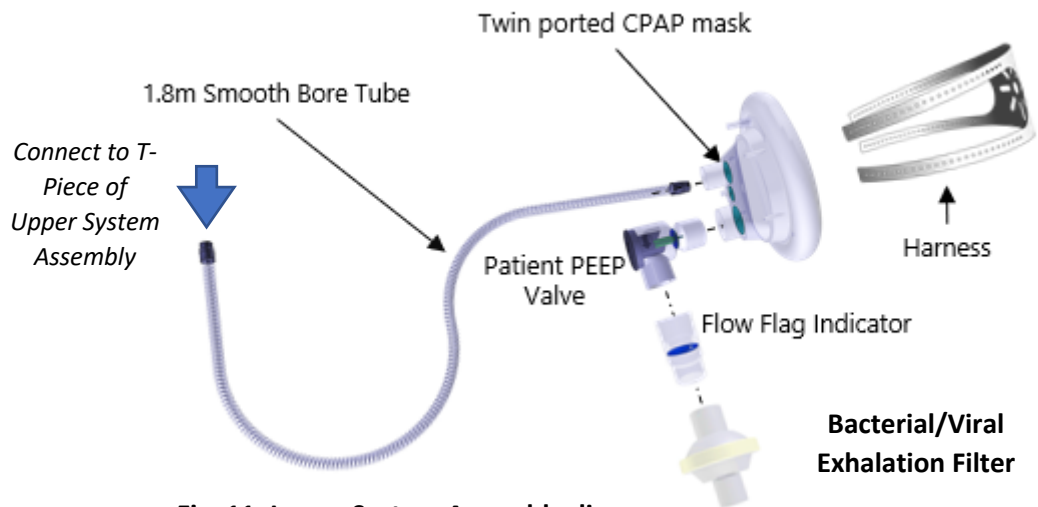
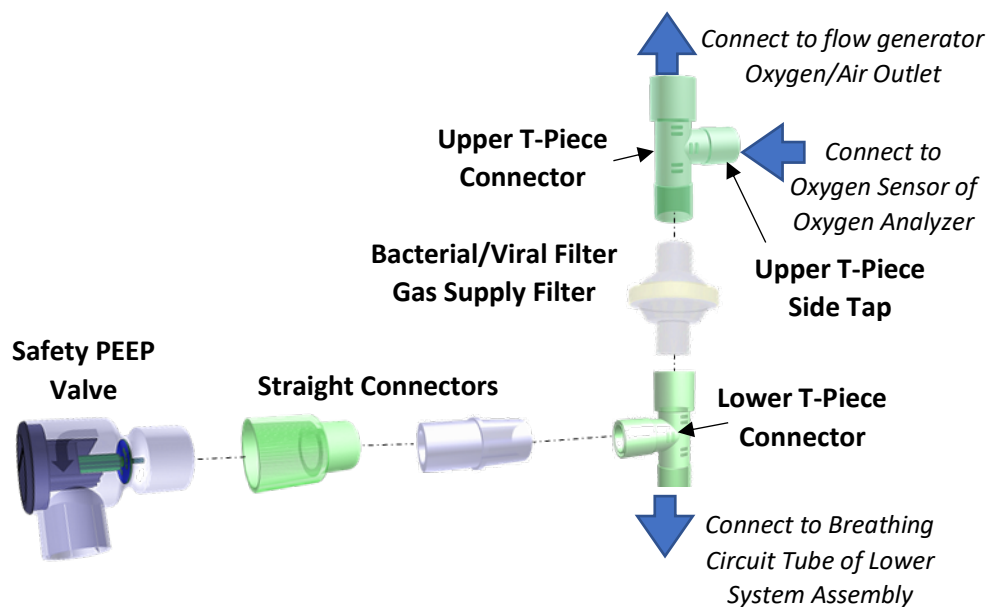
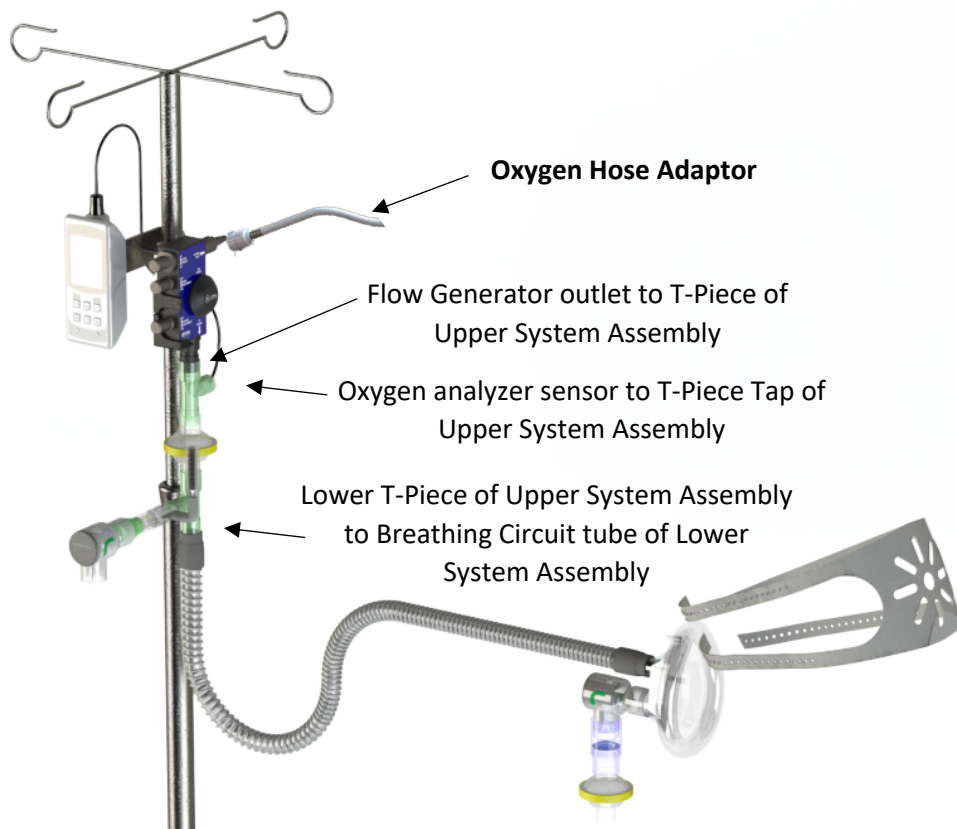

Fig. 11. Lower System Assembly diagram
Fig. 12. Upper System Assembly diagram
Fig. 13. Complete System interconnect diagram
4. Assemble the lower system accessories as shown in Fig. 11 using the selected patient PEEP valve rating. Set aside the mask harness for later use. The sub-assembly comprising the patient PEEP valve, flow flag indicator and breathing filter may be rotated to the right or left from the downward orientation to avoid interference with the patient's chest as needed. *Note: Appropriate patient mask size must be chosen according to Fig. 10.*
- Assemble the upper system accessories as shown in Fig. 12, ensuring that the safety PEEP valve rating is 5 cmH₂O to 10 cmH₂O greater than the patient PEEP valve per Table 1 for the recommended patient PEEP valve and safety PEEP valve combinations.
6. Connect the UCL Ventura flow generator and the oxygen analyzer to the assembled lower and upper system accessories as shown in Fig. 13.
7. Connect the upper T-Piece connector of the assembled upper system to the UCL Ventura flow generator oxygen/air outlet. Refer to Fig. 12 and Fig. 13. Ensure the flow generator outlet is securely inserted in the T-Piece connector.
8. Connect the oxygen sensor to the Upper T-Piece side tap. Refer to Fig. 12 and Fig. 13.
9. Connect the breathing circuit tube of the assembled lower system to the lower T-Piece connector of the assembled upper system. Refer to Fig. 11 and Fig. 13. Ensure that the end of the breathing circuit tube is securely fits onto the lower T-Piece connector. Route the lower system assembly to the patient's head to minimize risk of unintended disconnection or occlusion in preparation for the next steps.